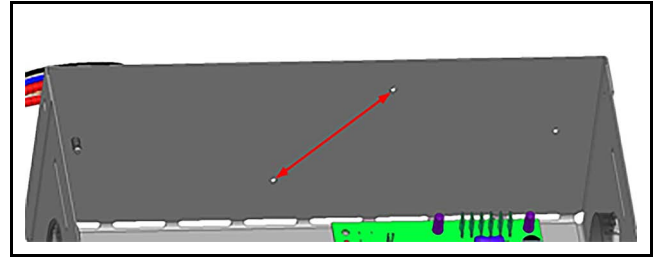

Fig. 6 Holes Locations to be Marked ((LM Control Box Bottom View)
- c. Mark hole pattern on mounting base. Refer to Fig. 6.